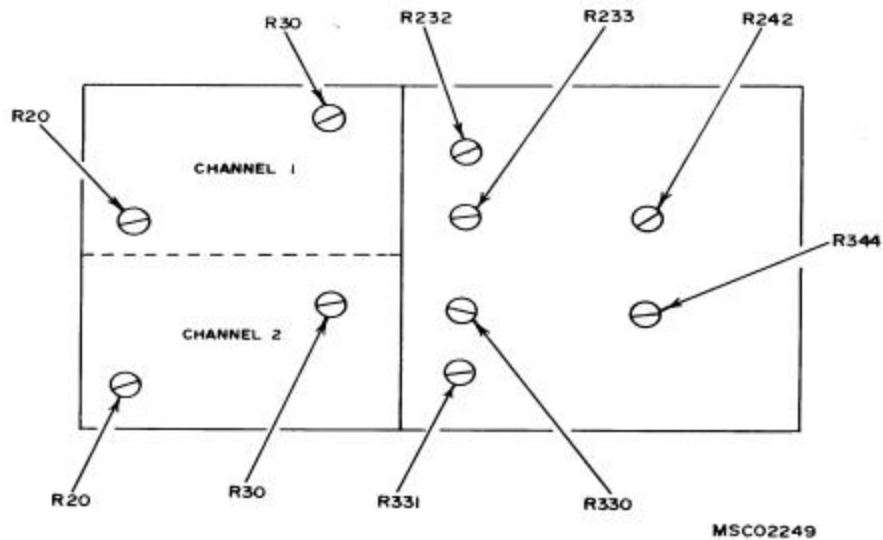

Figure 2. Test instrument - left-side view.
(1) Adjust channel 1 R20 (fig. 2) for a risetime between 300 and 350 ps.
(2) Adjust channel 2 R20 (fig. 2) for a risetime between 300 and 350 ps.
(1) Remove connection from CH1 and set both DELAYED SWEEP SEC/DIV and DELAYING SWEEP switches to 1 μ S and press HF SYNC pushbutton.
(2) Adjust R233 (fig. 2) for no vertical movement while simultaneously adjusting R232 (fig. 2) back and forth between fully ccw and 90-degree position. Readjust R232 fully ccw.
(3) Set CH1 VOLTS/DIV switch to 10 mV. Center trace on horizontal graticule with DC OFFSET control.
(4) Press LO NOISE pushbutton and adjust R242 (fig. 2) for no trace shift while pressing and releasing NO NOISE button.
(5) Release LO NOISE and HF SYNC pushbuttons. Set CH1 VOLTS/DIV switch to 50 mV and DELAYED SWEEP SEC/DIV and DELAYING SWEEP switches to 2 μ S.
(6) Reconnect pulse generator to CH1 and release HF SYNC pushbutton.
(7) Adjust R232 until first dot is on rise of pulse and level with top lead corner of display.
(8) Repeat (1) above for channel 2.
(9) Adjust R330 (fig. 2) for no vertical shift while simultaneously adjusting R331 (fig. 2) back and forth between fully ccw and 90-degree position. Readjust R331 fully ccw.
(10) Repeat technique of (3) and (4) above for CH2, except adjust R344 (fig. 2).
(11) Repeat technique of (5) and (6) above for CH2.
(12) Adjust R331 until first dot is on rise of pulse and level with top lead corner of display.
- (4) Press CH1 and release CH2 pushbuttons.
- (5) Repeat technique of (3) above for channel 1.
b. Adjustments. Adjust channel 2, R30 (channel 1, R30) (fig. 2) for optimum square-wave display.